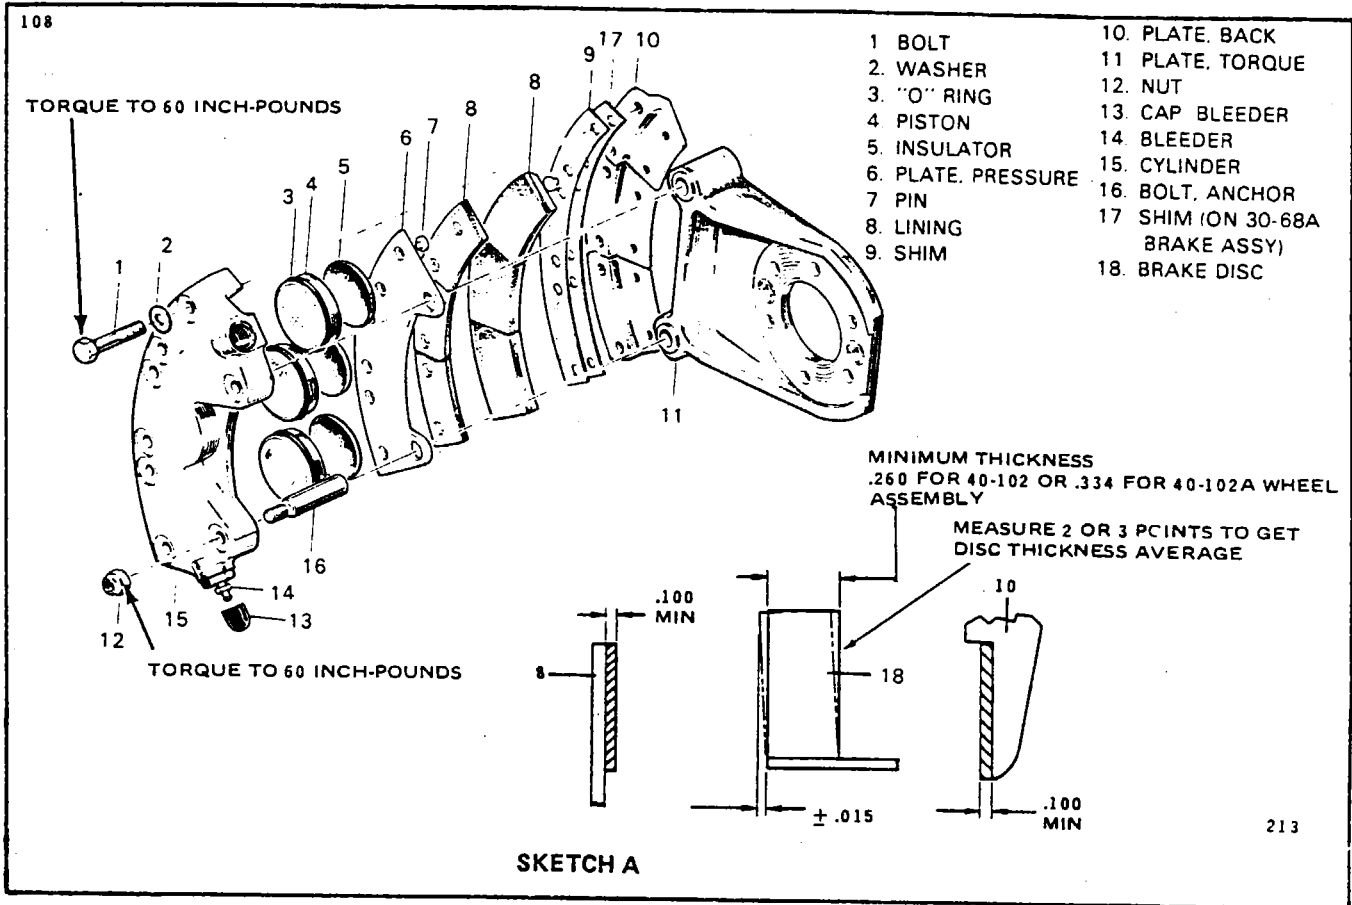

Figure 7-16. Wheel Brake Assembly (30-68 and 30-68a.)
7-45. INSPECTION OF MAIN WHEEL ASSEMBLY. Inspect brake disc for cracks, excessive wear or scoring, rust, corrosion and warpage. Remove rust and blend out nicks, using fine 400 grit sandpaper. Replace disc if cracked or when disc is worn below minimum thickness. (Refer to Figures 7-16 or 7-16b.) Ascertain that latest revision of Piper Service Letter No. 766 is complied with if applicable. In addition also perform the same inspection given for nose wheel in Paragraph 7-42.
7-50. REMOVAL AND DISASSEMBLY OF WHEEL BRAKE ASSEMBLY. (Refer to Figure 7-16 or 7-16b.)
- i. Inspect brake linings for edge chipping and surface deterioration. Refer to Figure 7-16 or 7-16b for maximum wear limits for brake linings and discs. Discs warpage should not exceed .015 or .010 inch.
7-52. ASSEMBLY AND INSTALLATION OF WHEEL BRAKE ASSEMBLY. (Refer to Figure 7-16 or 7-16b.)